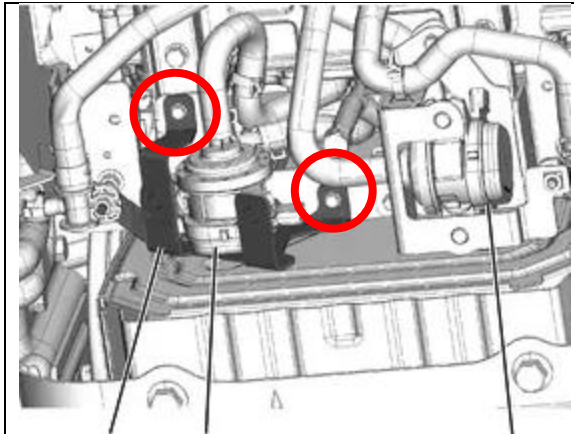

Figure 31
66. Remove the EV motor cooling system water pump from the vehicle by removing the two (2) bolts. (See Figure 31.)